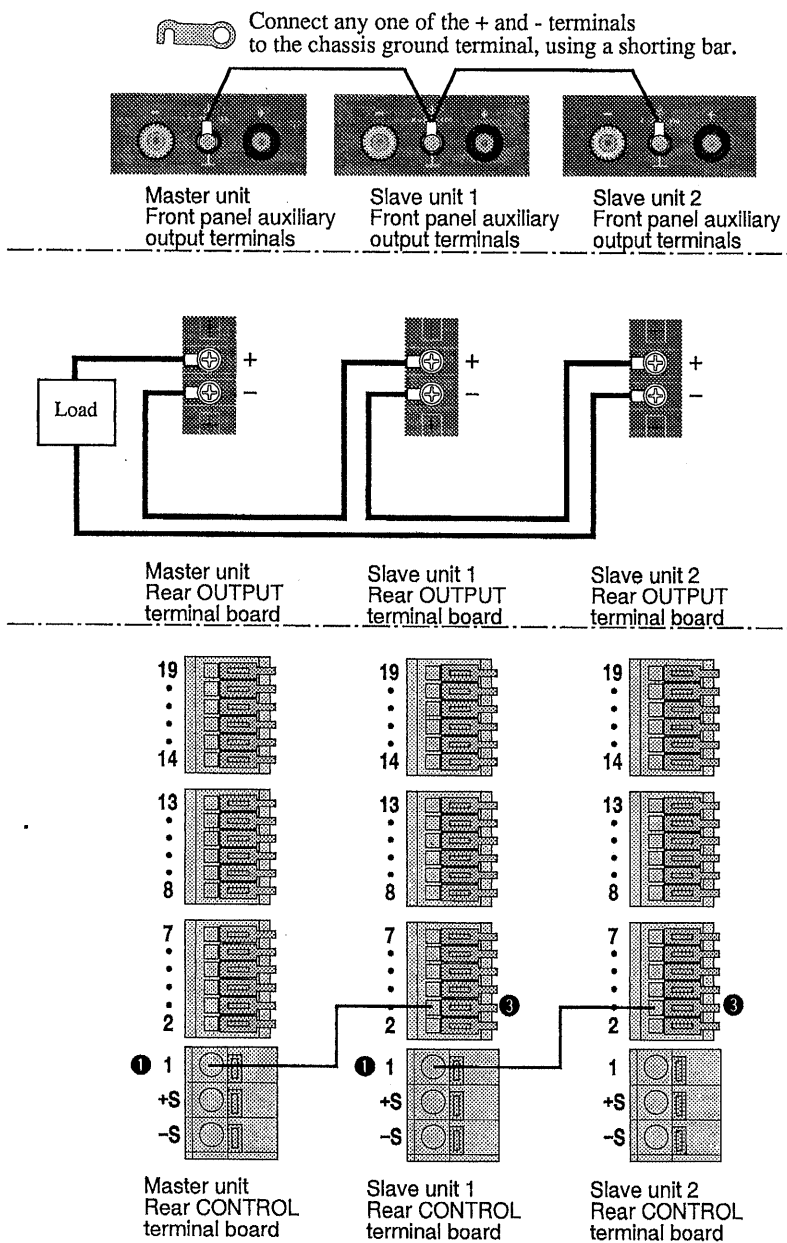

Fig. 3-14A Connection for master-slave-control series operation
- ⑥ Connect the master unit and slave units shown in Fig. 3-14A. Fig. 3-14A shows an example of how the rear output terminals are connected in series for two slave units.